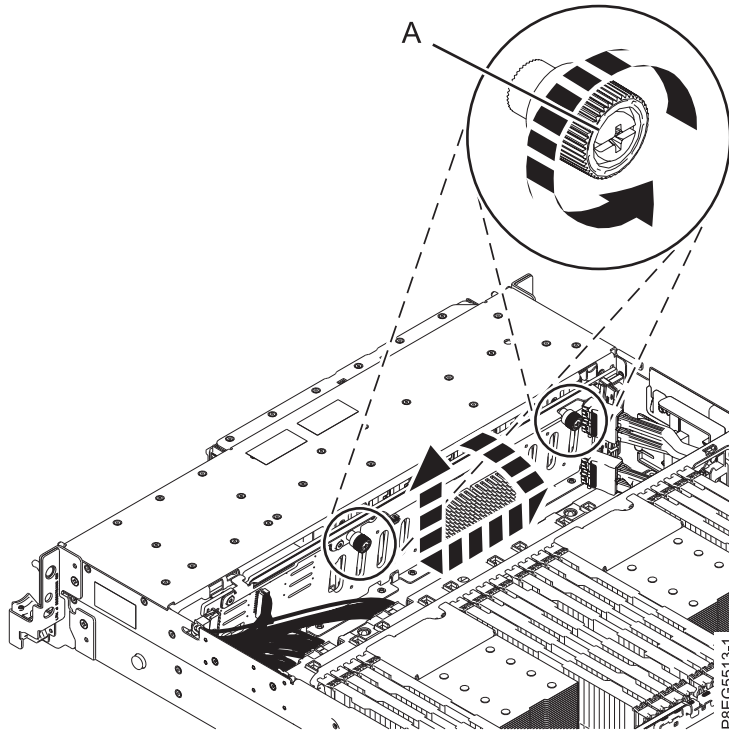

Figure 108. Removing the disk drive backplane
6. Carefully unscrew each of the disk drive backplane's captive thumbscrews (**A**) until fully loose as shown in Figure 108.